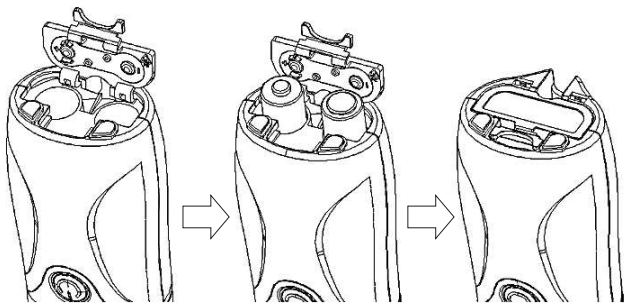

Fig. 3
- Ensure that the poles of the batteries are touching their respective poles in the device (Fig 3)